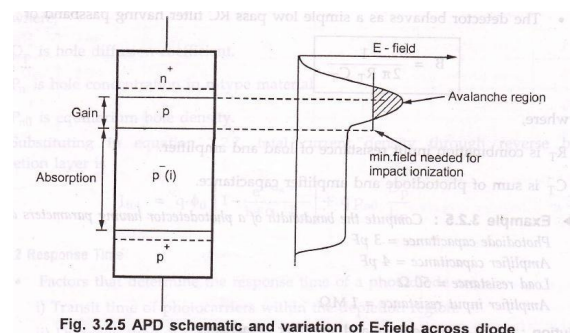

Fig. 3.2.5 APD schematic and variation of E-field across diode
- Fig. 3.2.5 shows the schematic structure of an APD. By virtue of the doping concentration and physical construction of the n+ p junction, the electric filed is high enough to cause impact ionization. Under normal operating bias, the I-layer (the p⁻ region) is completely depleted. This is known as reach through condition, hence APDs are also known as reach through APD or RAPDs.